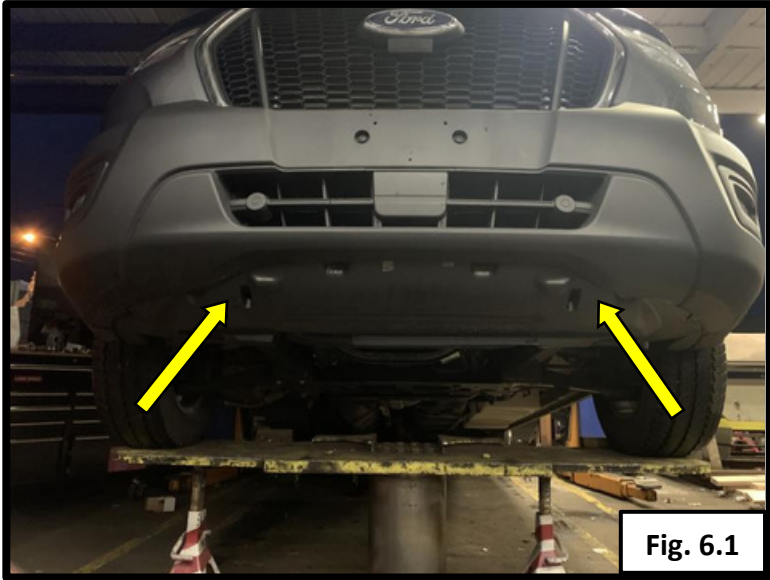

Fig. 6.1
- Remove the bottom splash guard connected to the front bumper by unclipping all the clips connecting the splash guard to the front bumper. See Fig. 6.1.